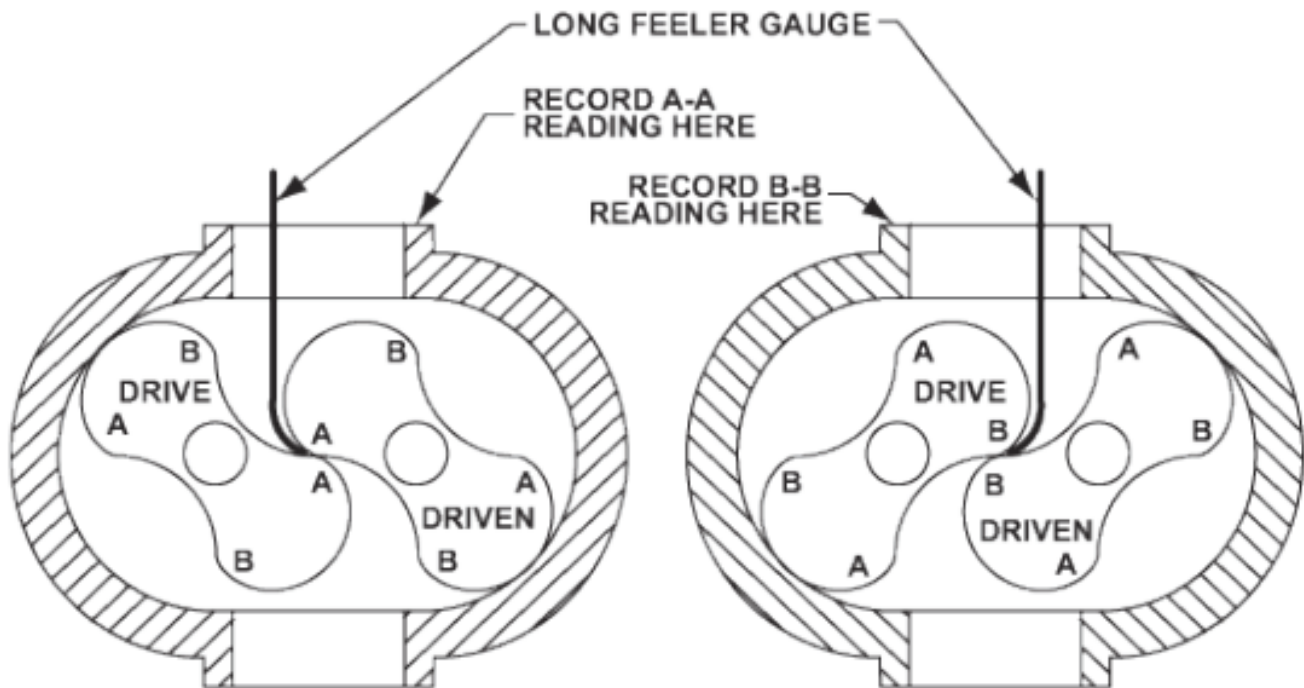

FIGURE 12
20. Lubricate the shafts and install the drive gear (right hand helix) on the drive rotor (left side). To install the driven gear, align the reference marks as shown in Figure 12. Install the driven gear carefully to avoid mashing any teeth when engaging the opposite gear.